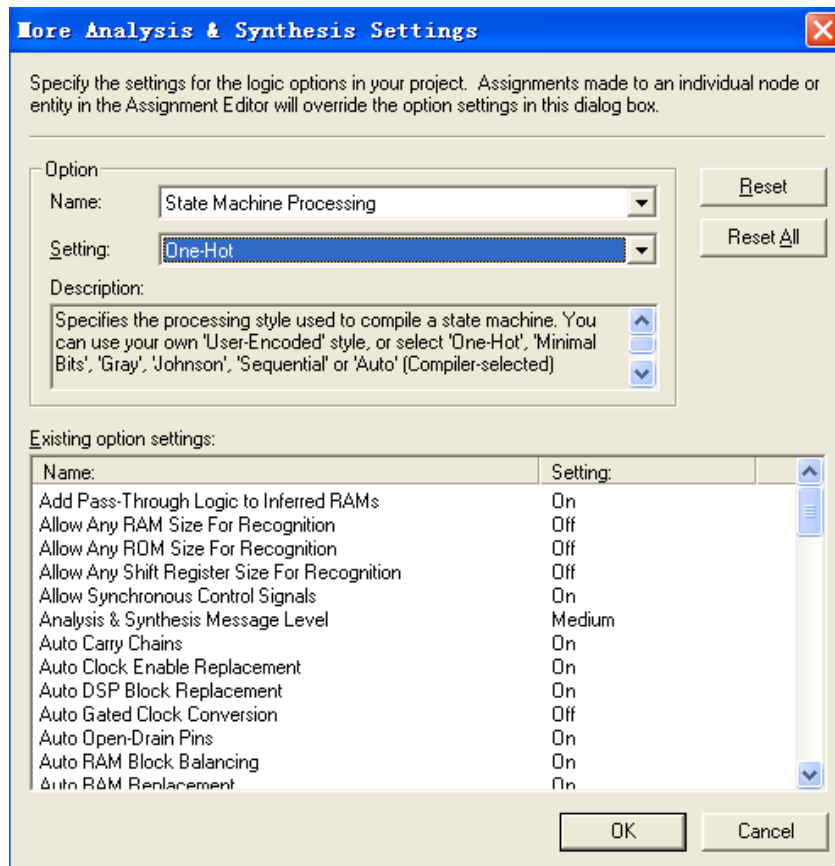

Figure 4. Specifying the state assignment method in Quartus II.
4. Before compiling your code it is possible to tell the Synthesis tool in Quartus II what style of state assignment it should use. Choose Assignments > Settings in Quartus II, and then click on the Analysis and Synthesis item on the left side of the window. As indicated in Figure 4, change the parameter State Machine Processing to the setting Minimal Bits.